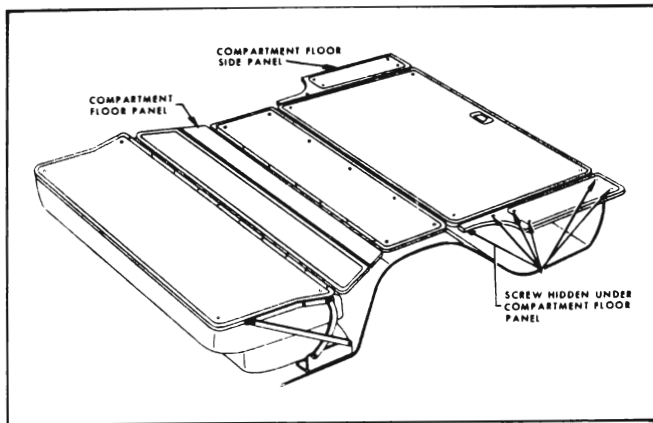

Figure 13-67 — Compartment Floor Side Panel Assembly
2. Remove screws securing compartment floor side panel to side panel support as shown at "A", Figure 13-67, and remove panel assembly from body.